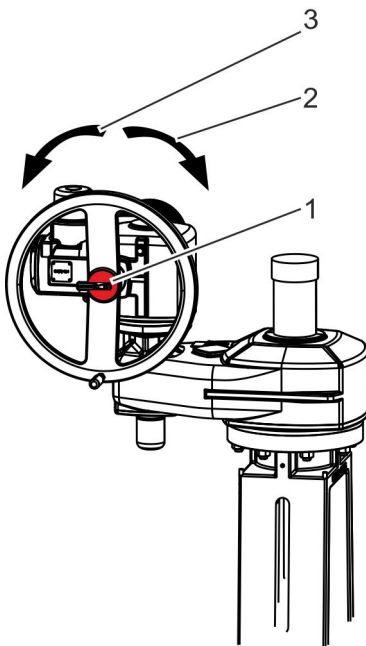

Fig. 17: Electric actuator: Operating the handwheel in an emergency
2. ➤ Couple the handwheel (Fig. 17/1).
- Turning clockwise (Fig. 17/2): Closes the valve.
- Turning anticlockwise (Fig. 17/3): Opens the valve.